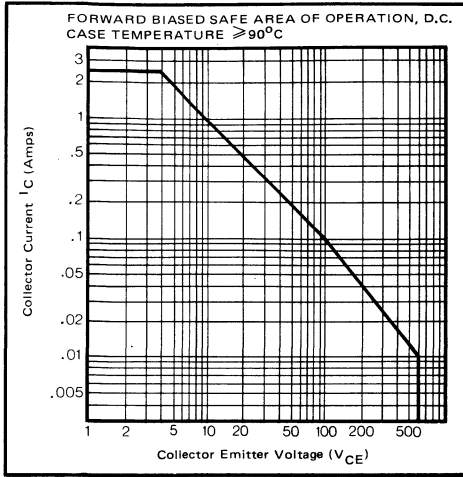
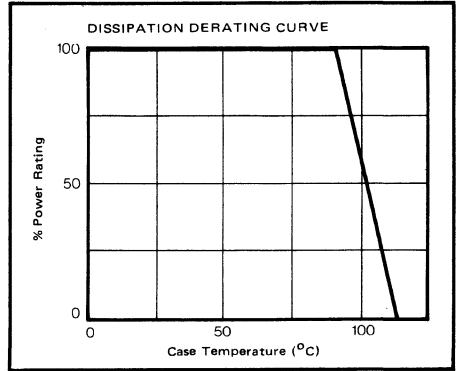

Fig.3
Fig.4
2. Refer to Figs 3, 4.
The graph on figure 3 is with a case temperature held at  $90^{\circ}\text{C}$ . For operation at case temperatures above  $90^{\circ}\text{C}$  derate the value of current indicated in figure 3 by the power derating factor, determined from figure 4.